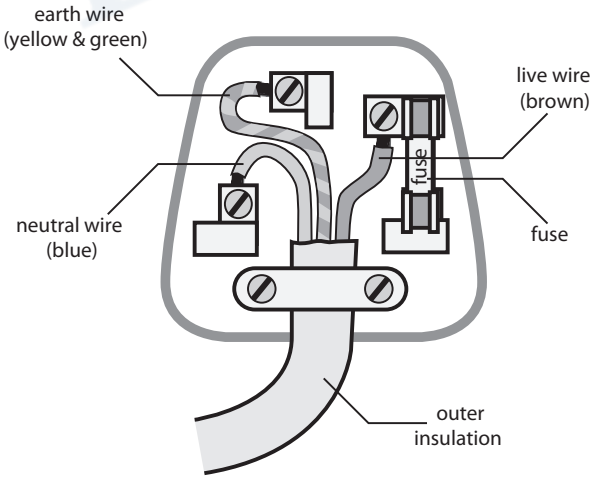

Figure 19.8. A domestic plug (UK-type: BS1363).
In the UK electricity is supplied at 240 V at 50 Hz, in contrast to North America’s 120 V at 60 Hz supply. Human tissue is most sensitive to frequencies between 40 and 150 Hz, making domestic power supplies particularly hazardous, with 50 Hz being optimal for causing ventricular fibrillation. UK power outlets incorporate shutters on the live and neutral contacts and usually include a separate on/off switch. British Standard (BS) 1363 plugs (*Figure 19.8*) also contain a fuse within the plug,